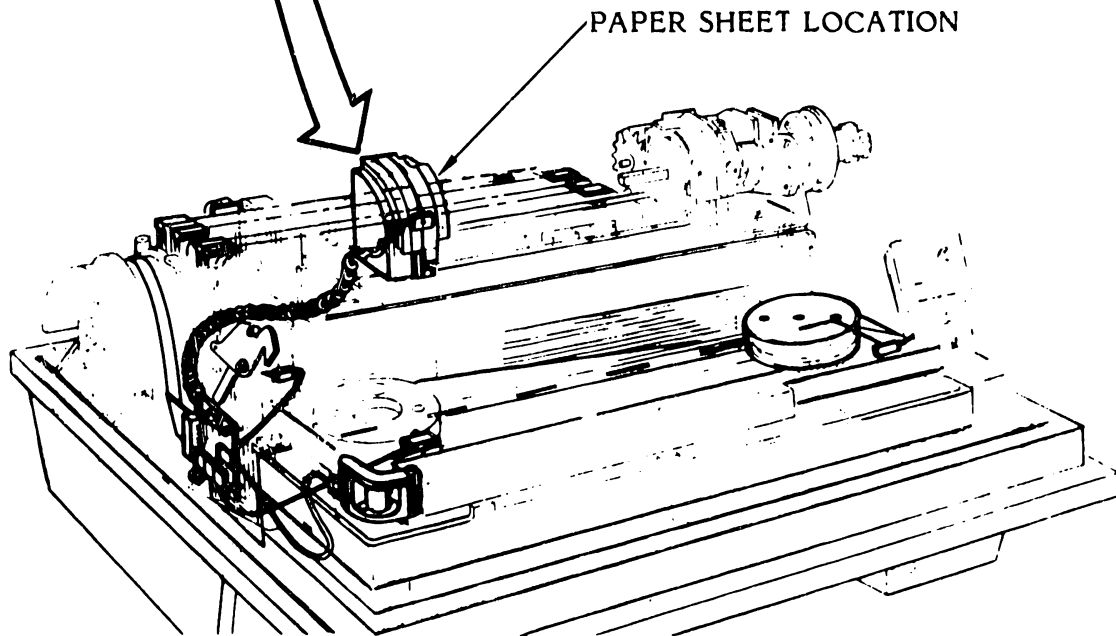

Figure 3-21. Paper Motion Sensor Test Location
- f. Open the left paper sprocket cover (see figure 3-21).